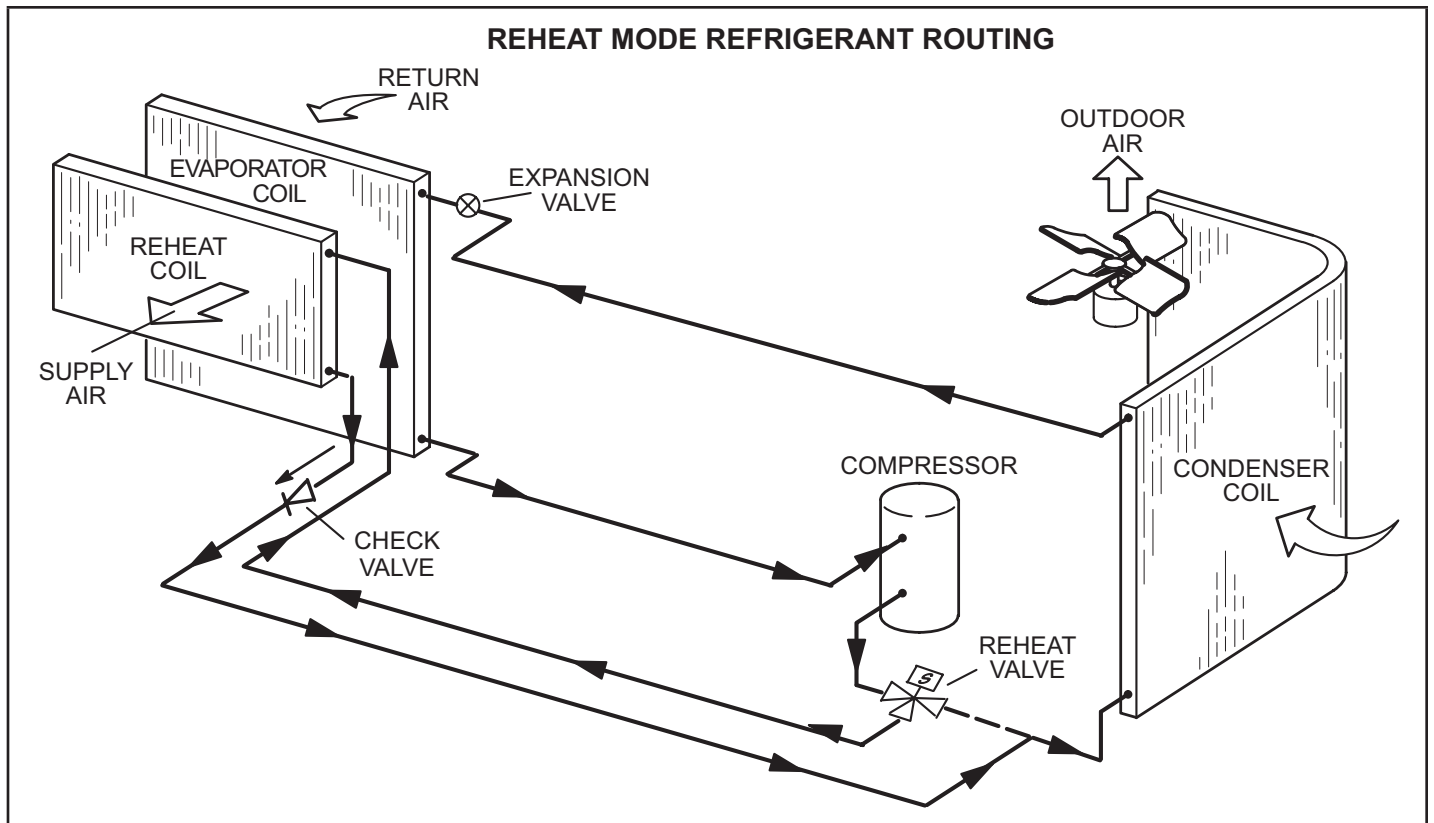
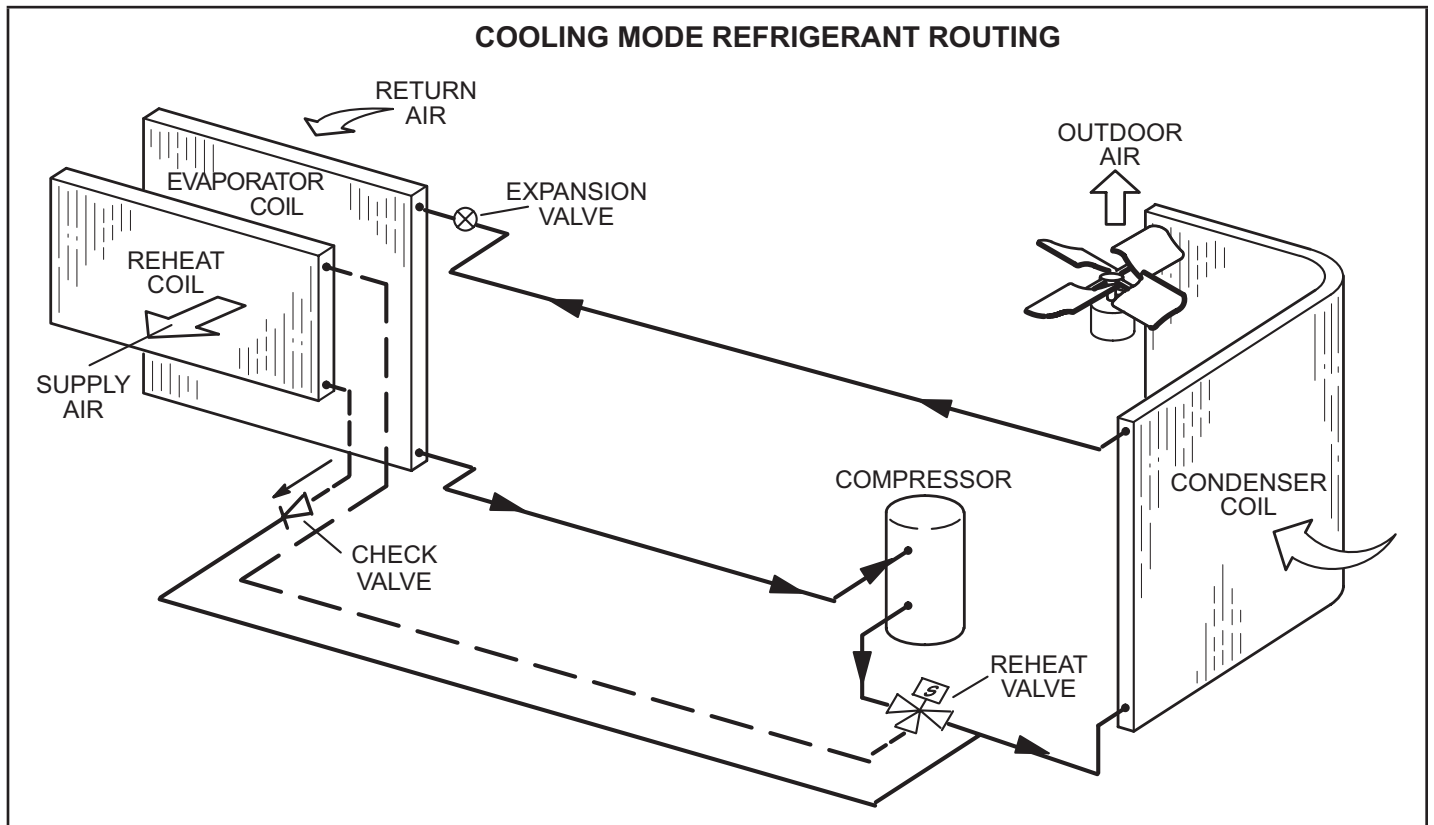

FIGURE 36
FIGURE 37
Hot gas reheat units provide a dehumidifying mode of operation. These units contain a reheat coil adjacent to and downstream of the evaporator coil. Reheat coil solenoid valve, L14, routes hot discharge gas from the compressor to the reheat coil. Return air pulled across the evaporator coil is cooled and dehumidified; the reheat coil adds heat to supply air. See FIGURE 36 for reheat refrigerant routing and FIGURE 37 for standard cooling refrigerant routing.
- 4 - Remove and retain screws securing combustion air inducer to flue box. Remove vent connector. See FIGURE 37.